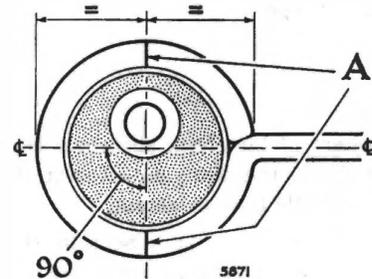

Fig. 4. Method of marking spring eye.
A tolerance of $\pm \frac{1}{32}$ in. (.8mm) must not be exceeded. To ensure that this is maintained, the spring should be scribed as shown at (A) in Fig. 4 before fitting.